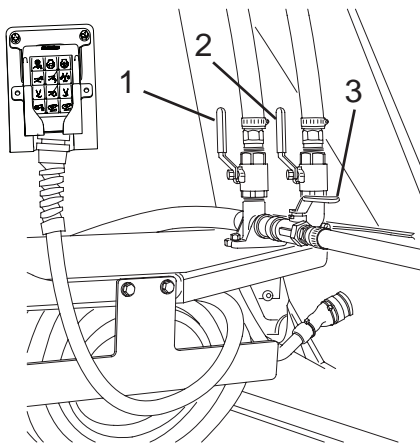

Figure 77
5. Open the upper wash-out valve (Figure 77, Item 1), “Add Water” valve (Figure 77, Item 2), or lower wash-out valve (Figure 77, Item 3) to activate the desired function.